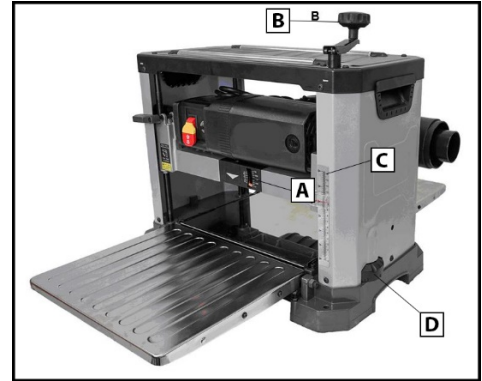

Figure 6
1. To raise the head assembly (A), turn the adjusting handle (B) clockwise. See FIG 6.